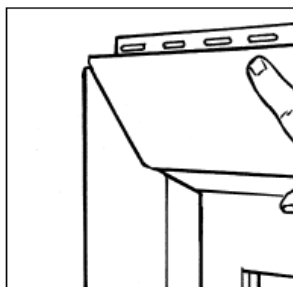

Figure 4
4. Install the top lineal placing the angles over the side lineals. Nail loosely every 8" TO 12". (figure 4.)